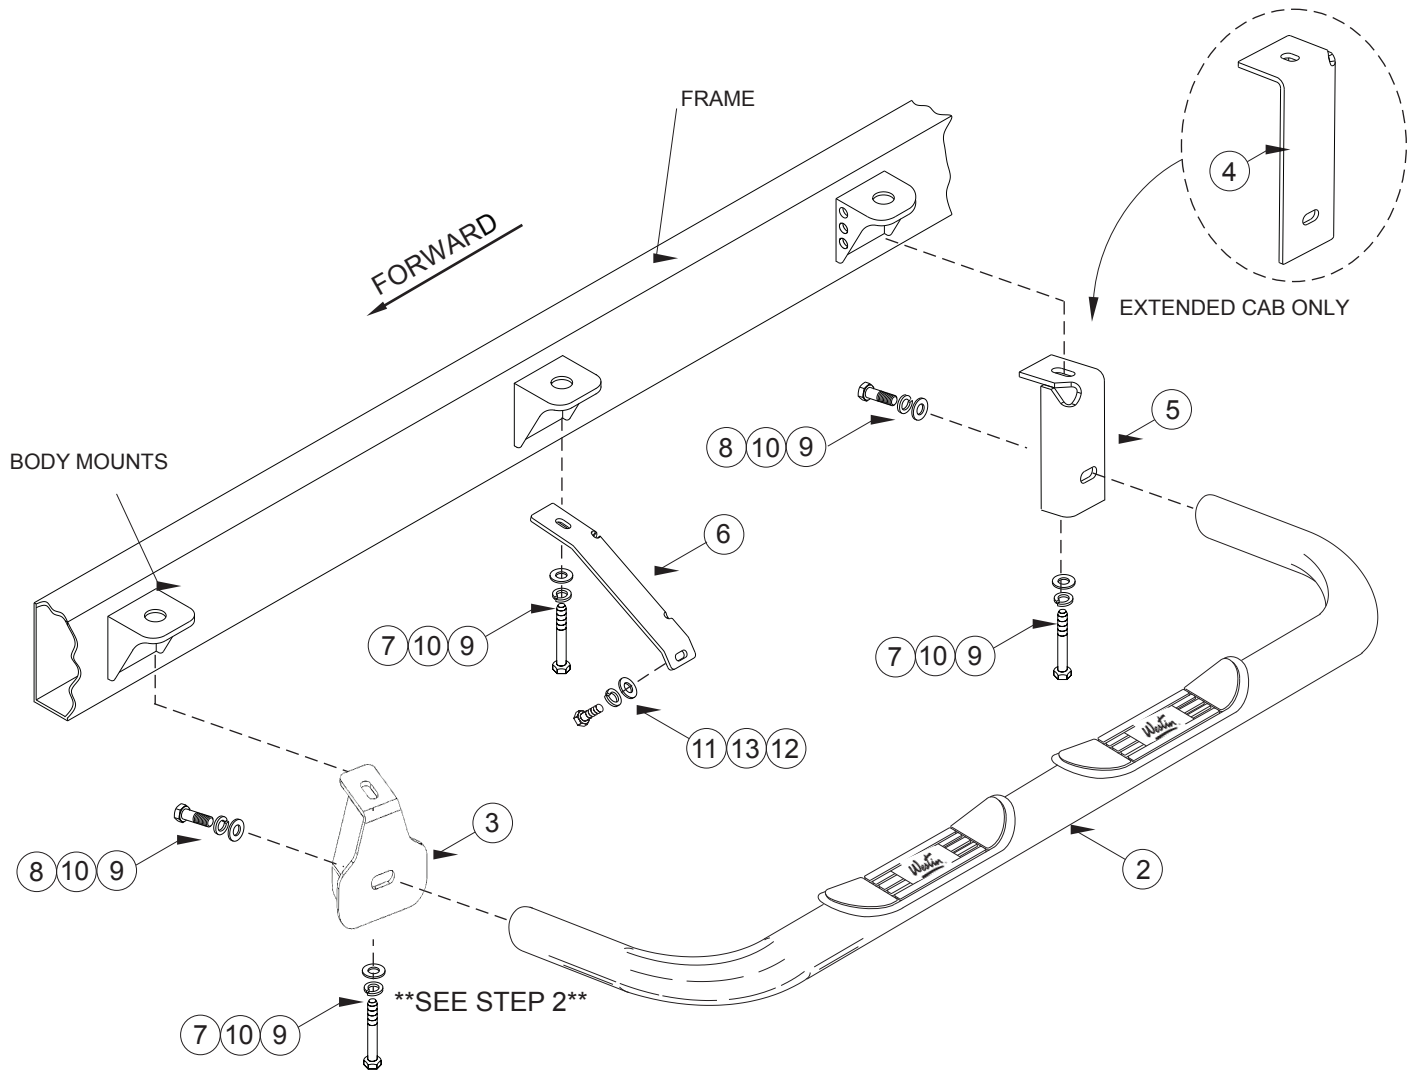

FIGURE 1
- STEP 3.** Position front bracket up to the front body mount and attach with the appropriate fasteners. Adjust bracket in towards the frame so there is at least 1/8" clearance between the brackets and the body mount pocket. Hand tighten. **SEE FIGURE 1 AND 2.**
- STEP 4.** Attach brackets as shown. Hand tighten. **SEE FIGURE 1.**
- STEP 5.** Attach step bar as shown. Hand tighten. The step pad closer to the bend goes to the rear of the vehicle. **SEE FIGURE 1.**